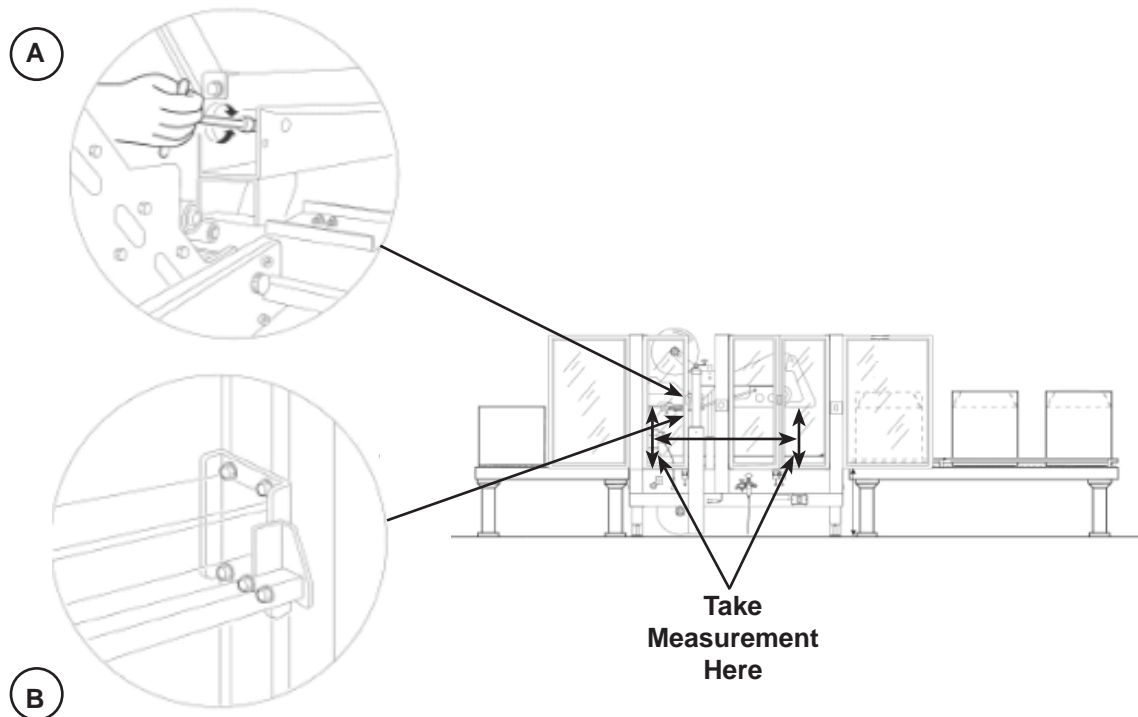

Figure 13-2 Upper Taping Head Leveling
3. Take measurement from exit end of upper head assembly and front of flap folding ski to machine bed, as shown in **Figure 13-2**. Upper assembly must be level $\pm 1.5\text{mm}$ [$\pm 1/16$ inch].
4. Retighten five (5) bolts on each side of crossbar to secure adjustment.